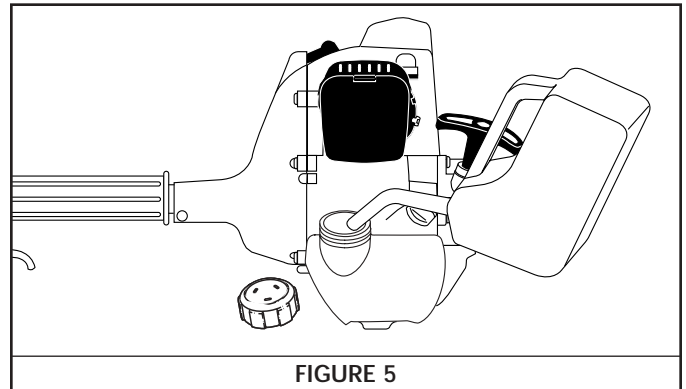

FIGURE 5
2. Place the spout of the gas container into the fill hole on the fuel tank and fill. See Figure 5.